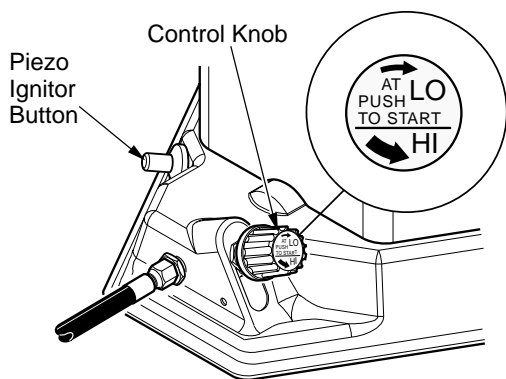

Figure 4 - Control Knob, and Piezo Ignitor Button Locations
4. Turn control knob clockwise to the lowest position and push in (see Figure 4, page 5).
5. With the control knob pushed all the way in, press and release the piezo ignitor button (see Figure 4, page 5). Keep pressing piezo ignitor button until the burner lights. Hold control knob down for a maximum of 10 seconds while attempting ignition. If heater does not ignite, release control knob and wait 3 minutes before attempting reignition.